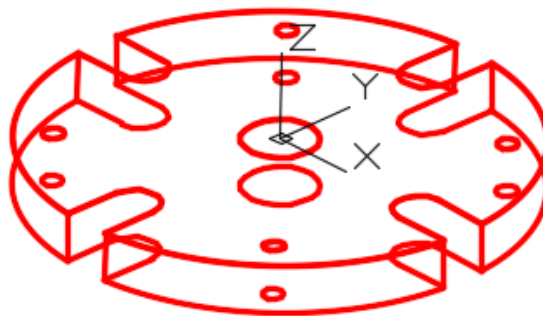

Figure Step 8
Step 8 Draw the vertical lines by snapping to the endpoints to complete the wireframe model. (Figure Step 8)